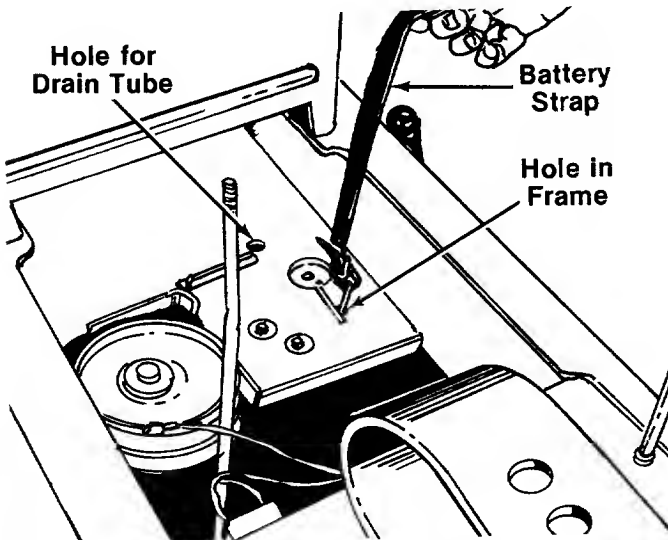
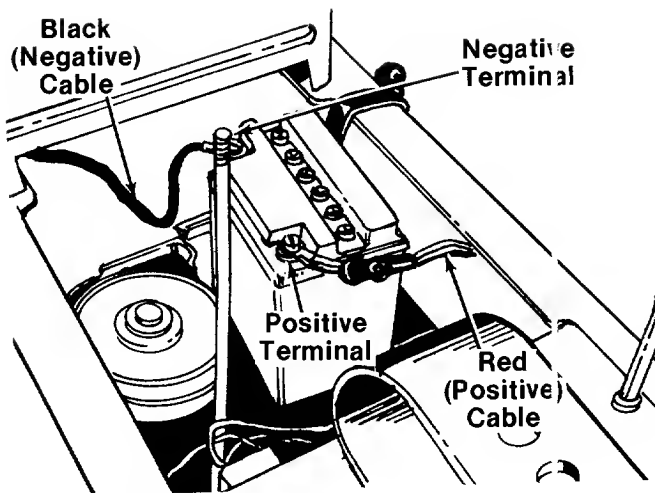

FIGURE 8.
FIGURE 9.
5. Hook one end of the battery strap into the hole provided in the frame. See figure 8. Lay the strap over the side of the frame.
6. Set the battery in the lawn tractor so that the negative terminal is toward the front of the unit. See figure 9. Place the end of the drain tube into the hole in the frame shown in figure 8.
7. Slide the square nut (provided with battery hardware) into the positive (+) terminal. Place the positive (heavy red wire) cable on the positive terminal. Secure with screw provided. See figure 9.